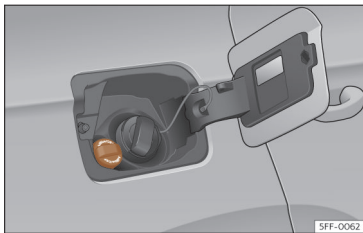

Fig. 208 AdBlue tank cap®.
- Open the tank flap >>> **Fig. 208.**
- Turn the SCR tank cap anti-clockwise >>> **Fig. 208.**